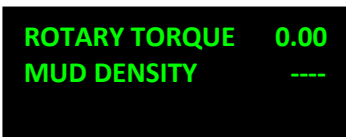

Figure 8. Readings in case of loss of communication with the DN-130(P)
If the connection with the DN-130(P) is lost, the symbol "-----" opposite the parameter MUD DENSITY is displayed on the MU-150 / MU-150E EL screen (see Fig. 8).